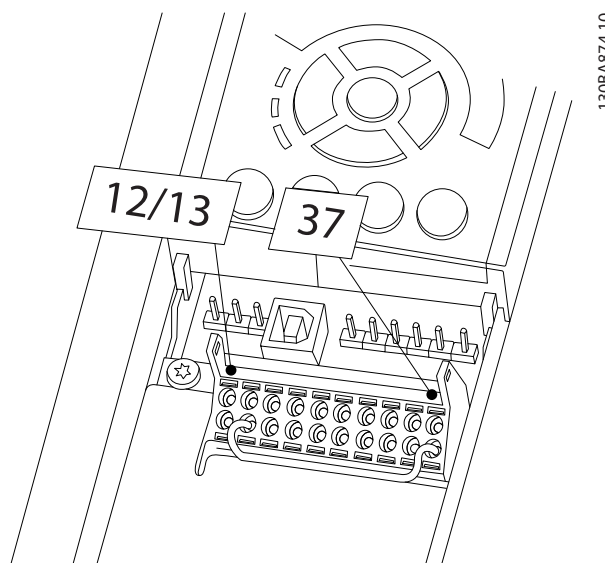

Figure 2.27 Jumper between Terminal 12/13 (24 V) and 37
1. Remove the jumper wire between control terminals 37 and 12 or 13. Cutting or breaking the jumper is not sufficient to avoid short-circuiting. (See jumper on *Figure 2.27*.)
If the status line at the bottom of the LCP reads **AUTO REMOTE COASTING** or **Alarm 60 External Interlock** is displayed, this indicates that the unit is ready to operate but is missing an input signal on terminal 27. See *Figure 2.27* for details.